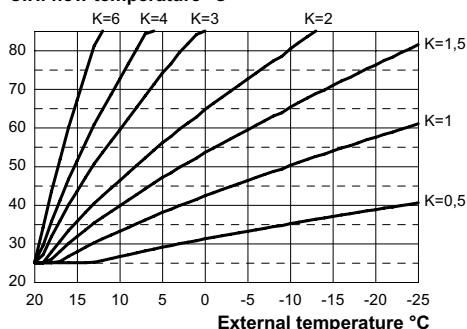

Fig. 8.6
If the boiler is **EQUIPED** with the remote control (optional) refer to Fig. 8.6.
The K coefficients is a parameter that increases or reduces the boiler flow temperature when the outside temperature changes. When installing the external probe it is necessary to set this parameter based on the efficiency of the heating system in order to optimise the flow temperature (Fig. 8.6).
E.g. In order to have a flow temperature at the heating system of 60°C with an external temperature of -5°C, set a K at 1.5 (sectioned line in Fig. 8.6).
- Using keys 13 or 14 it is possible to change the value of parameter 15 from a minimum of **01** to a maximum of **60** based on the selected bend of the K coefficient in Fig. 8.6 (the value read on the display corresponds to K coefficients decimal values).